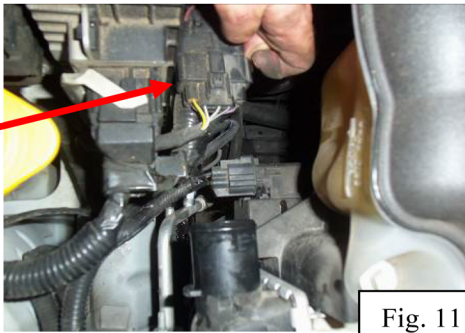

Fig. 11
11. Unplug the cooling fan wiring harness (Fig. 11).